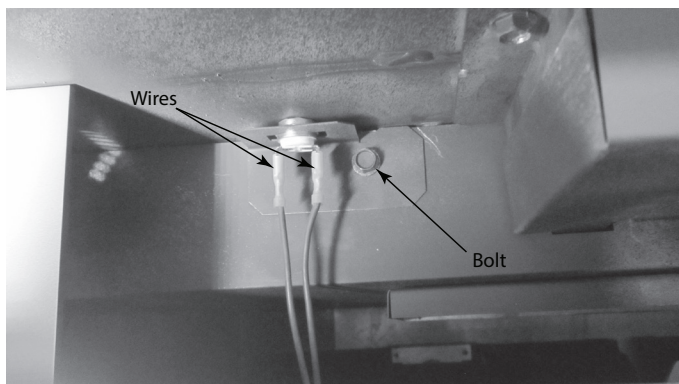

Figure 4.38 Snap Disc Replacement
- 6. Install the new snap disc in the bracket and reinstall in the fireplace. See Figure 4.38.